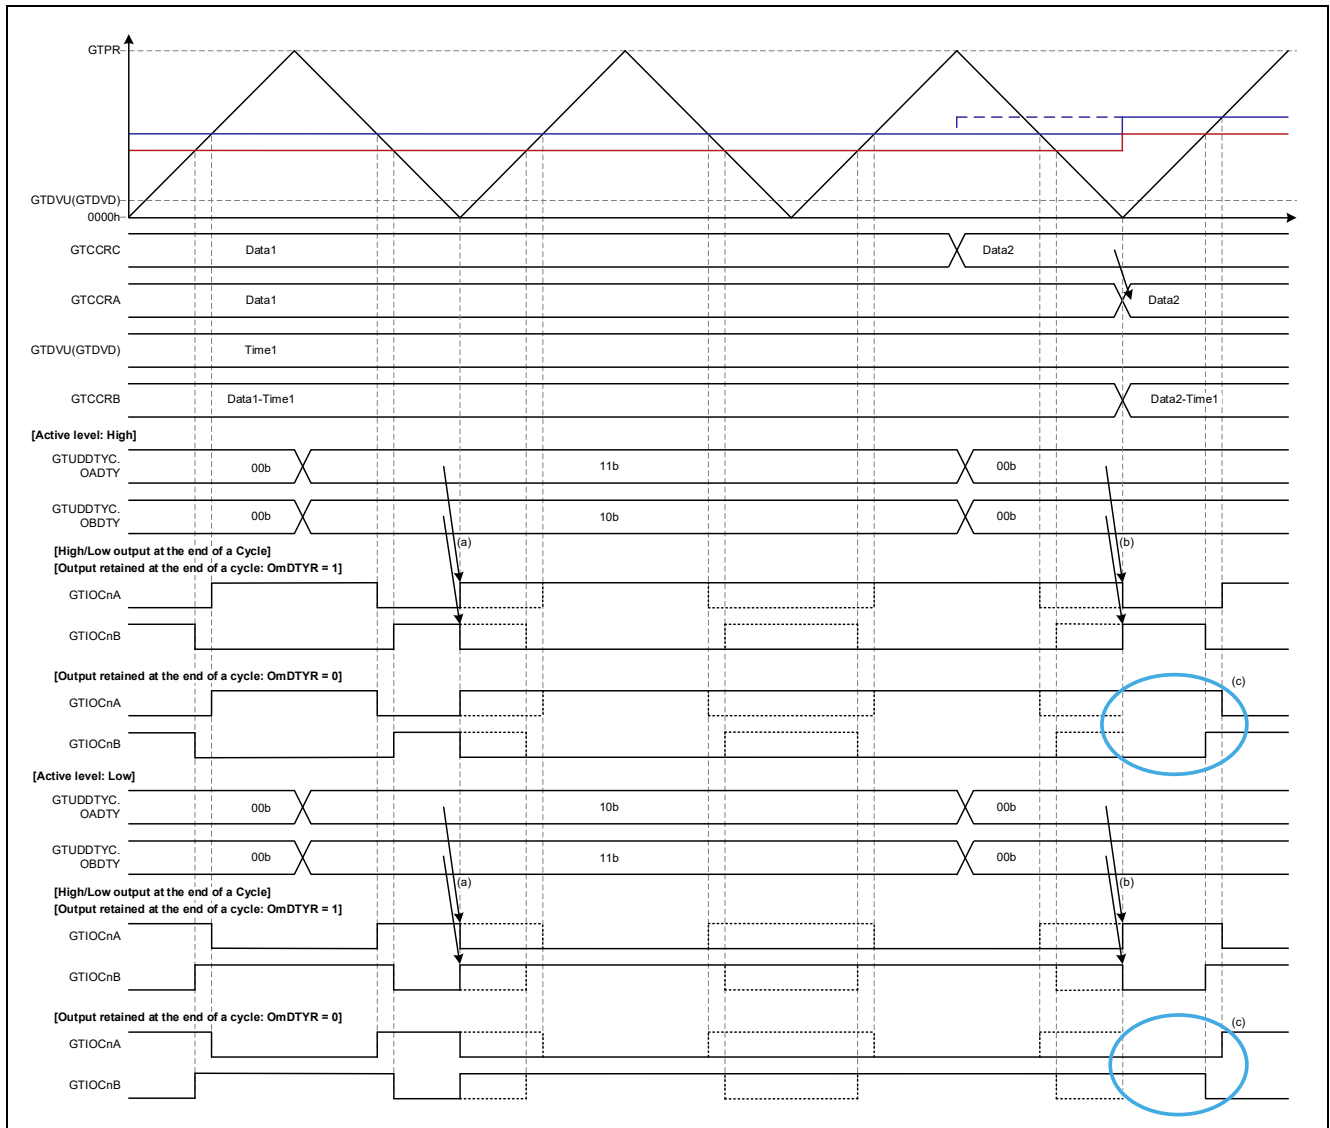
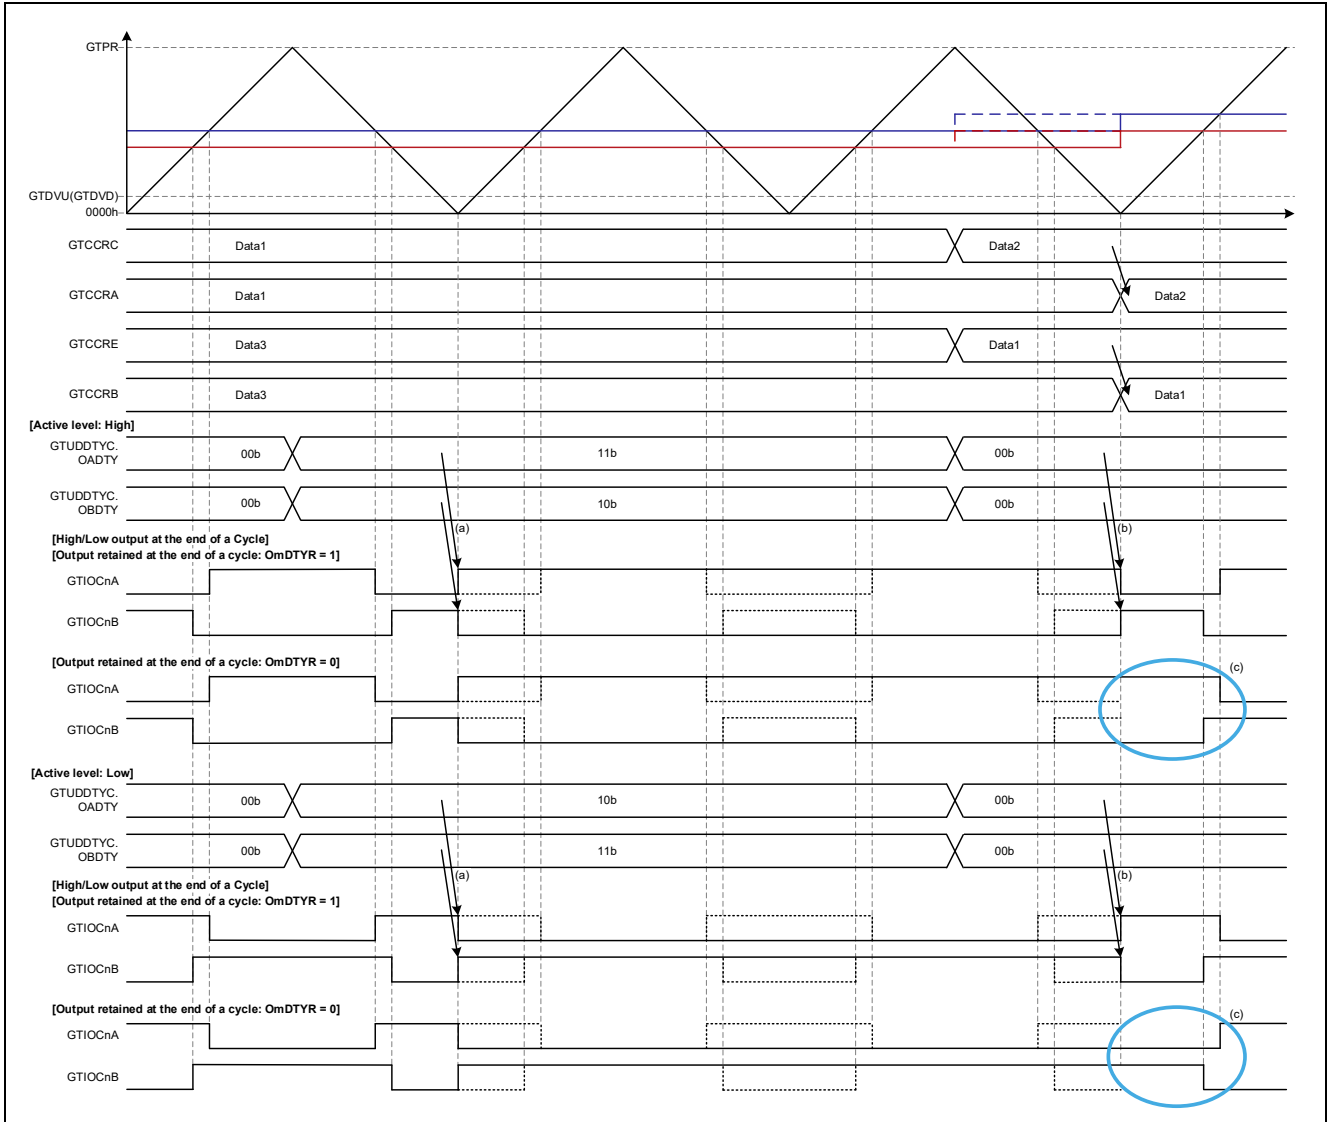
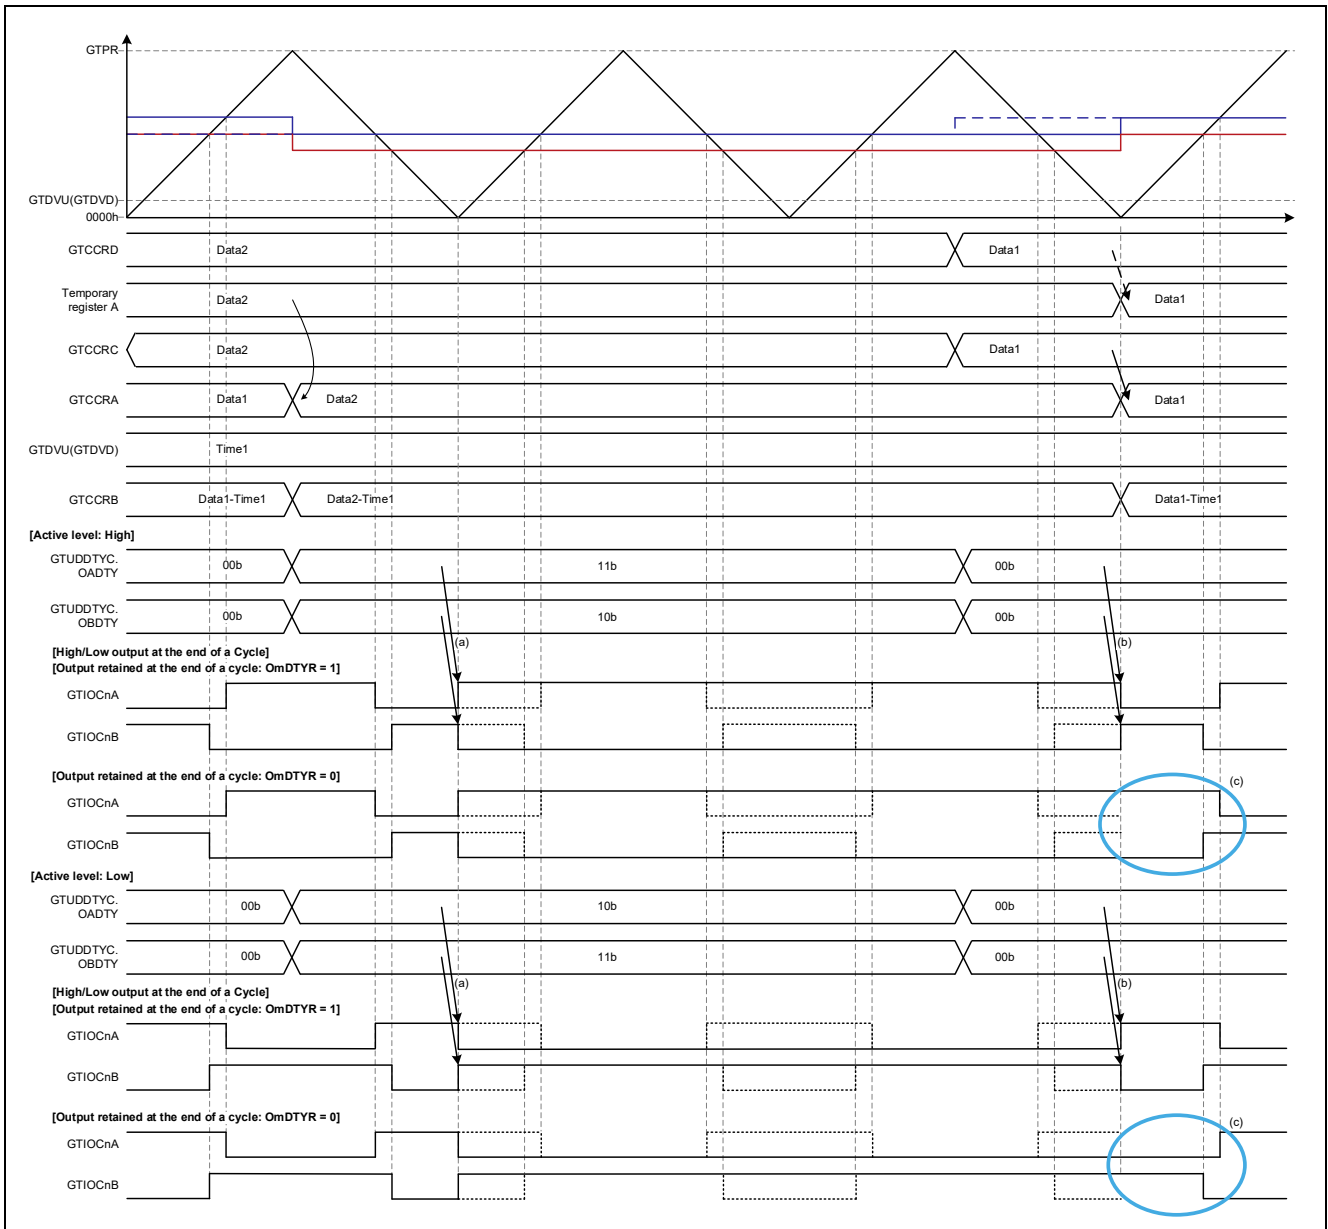
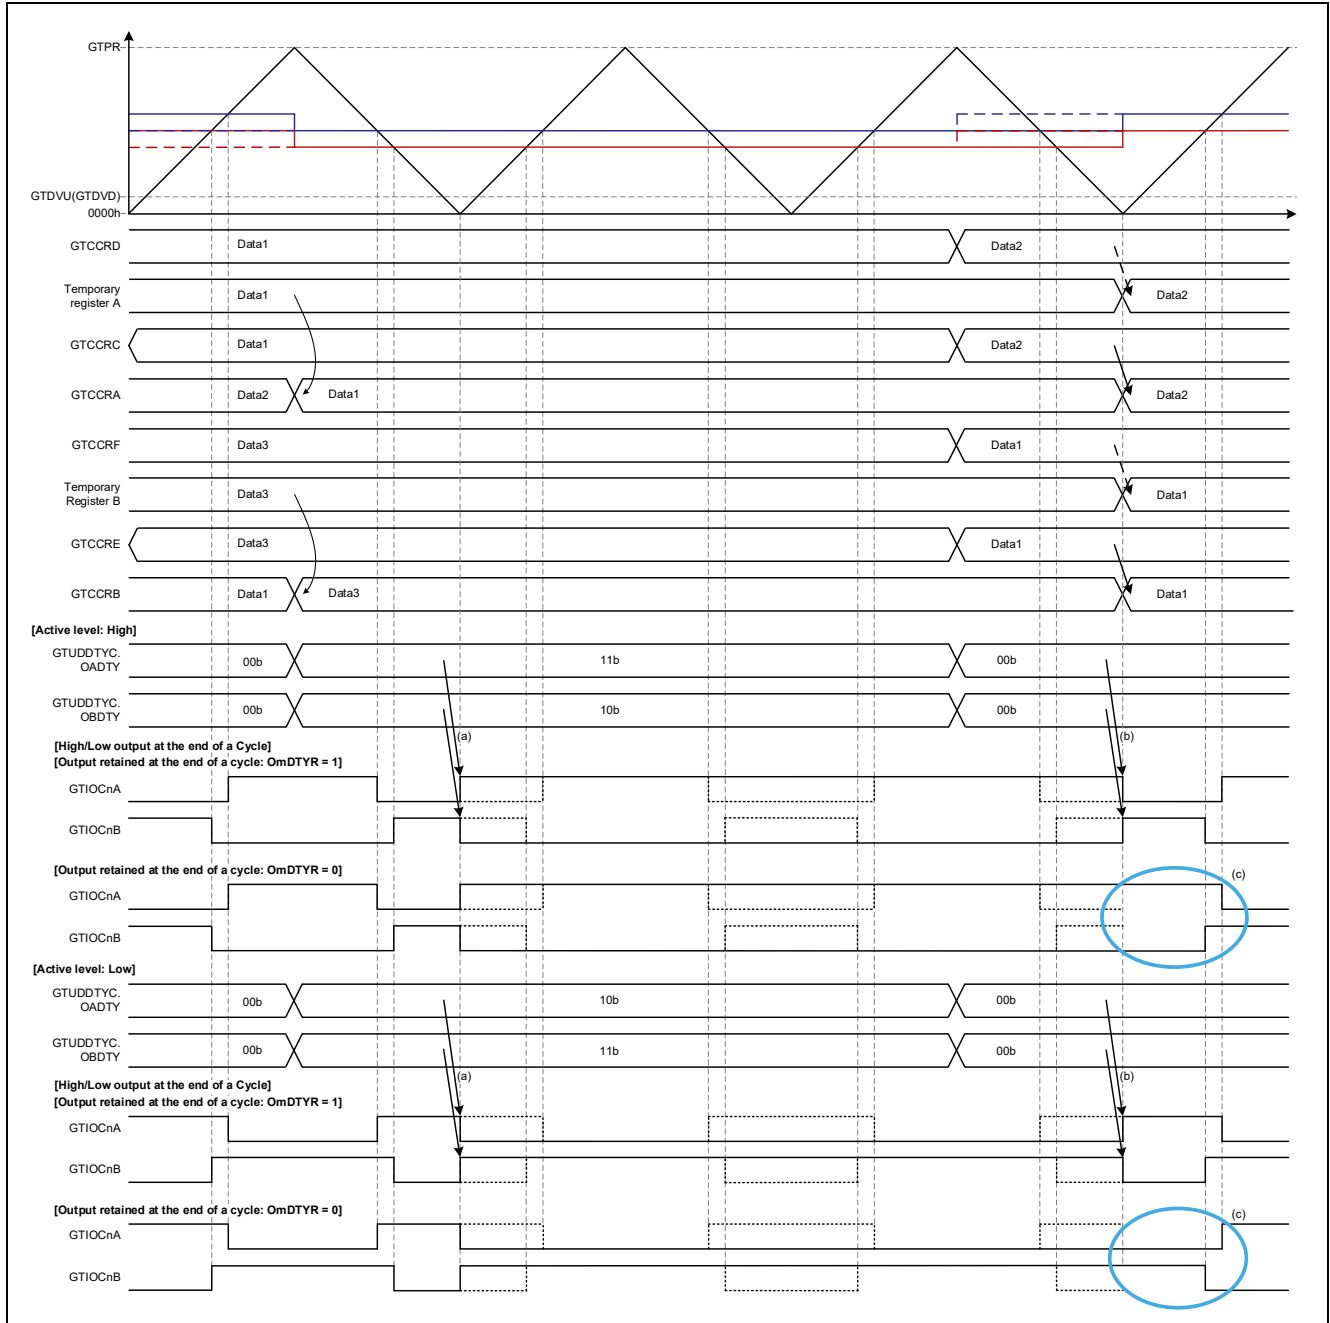

Figure 1.15 Triangle-Wave PWM Mode 1 Operation Example
Figure 1.16 Triangle-Wave PWM Mode 1 Operation Example
Figure 1.19 Triangle-Wave PWM Mode 3 Operation Example (Output Start: Trough, Automatic Dead Time Setting Function Enabled, Duty: 50% → 0%/100% → 50%)
Figure 1.20 Triangle-Wave PWM Mode 3 Operation Example
Figure 1.15 to Figure 1.20 illustrate the 0% and 100% duty cycle waveform output operation examples in each GPTW operating mode listed in Table 1.7.
- [Operation example 1] Figure 1.15, Triangle-Wave PWM Mode 1, Output Start: Trough, Automatic Dead Time Setting Function Enabled
- [Operation example 2] Figure 1.16, Triangle-Wave PWM Mode 1, Output Start: Trough, Automatic Dead Time Setting Function Disabled
- [Operation example 5] Figure 1.19, Triangle-Wave PWM Mode 3, Output Start: Trough, Automatic Dead Time Setting Function Enabled
- [Operation example 6] Figure 1.20, Triangle-Wave PWM Mode 3, Output Start: Trough, Automatic Dead Time Setting Function Disabled
Figure 1.15 shows an operation example with the automatic dead time setting function enabled in triangle-wave PWM mode 1.
Figure 1.16 shows an operation example with the automatic dead time setting function disabled in triangle-wave PWM mode 1. Except for the operation of the GTCCRB and GTCCRE registers, the operation is the same as that shown in Figure 1.15.
Figure 1.19 shows an operation example with the automatic dead time setting function enabled in triangle-wave PWM mode 3.
Figure 1.20 shows an operation example with the automatic dead time setting function disabled in triangle-wave PWM mode 3. Except for the operation of the GTCCRB and GTCCRE registers, the operation is the same as that shown in Figure 1.19.